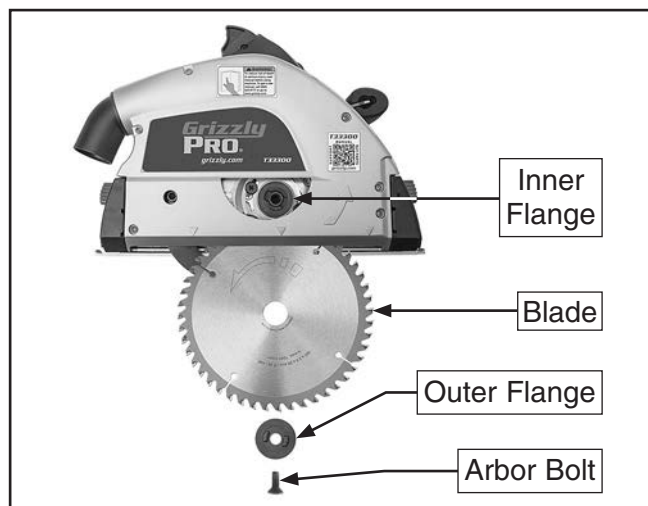

Figure 8. Removed saw blade and blade-fastening components.
- Carefully remove arbor bolt and outer flange, then guide blade down and out of saw (see **Figure 8**).
- Insert new blade in saw, aligning center of blade over inner flange (see **Figure 8**).
- Verify grooves of outer flange are correctly lined up with inner flange (see **Figure 8**).